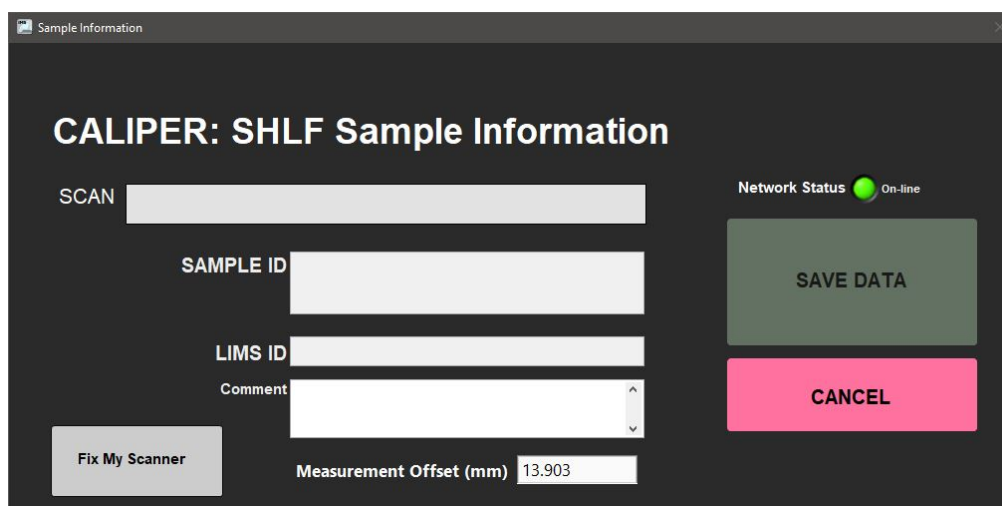

Figure 13. Section Half Caliper Measurements Sample Information Window
6. Select Save Data. A sample information window will appear (**Figure 13**).
5. Select Save Data. A sample information window will appear (**Figure 13**).